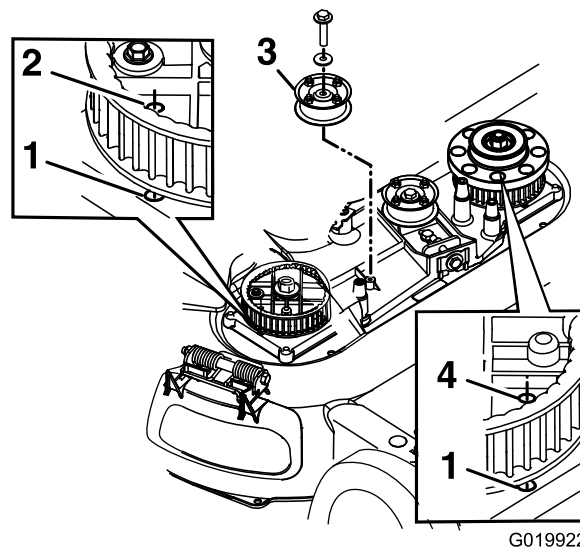

Figure 41
8. Remove the fixed idler pulley and the hardware (Figure 41).
10. Align the holes in the right-hand and left-hand sprockets with the holes in the housing as shown in Figure 41.